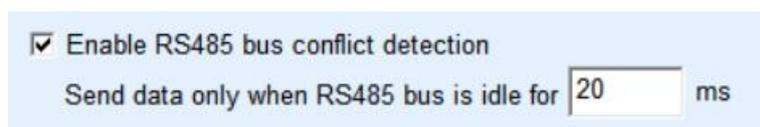

Figure 38 Free time of RS232 conflict prevention
1. Figure 38 shows the RS485 bus collision prevention time. Generally, you can set it to twice the value of Packet Interval in the lower right corner of the parameter configuration page, but the value cannot be less than 20.
At this time, it should be noted that the two check marks "RS485 bus collision prevention time" as shown in Figure 38 and "RS485 command response timeout time" as shown in Figure 37 need to be removed. Otherwise, the preceding forwarding function cannot be implemented.